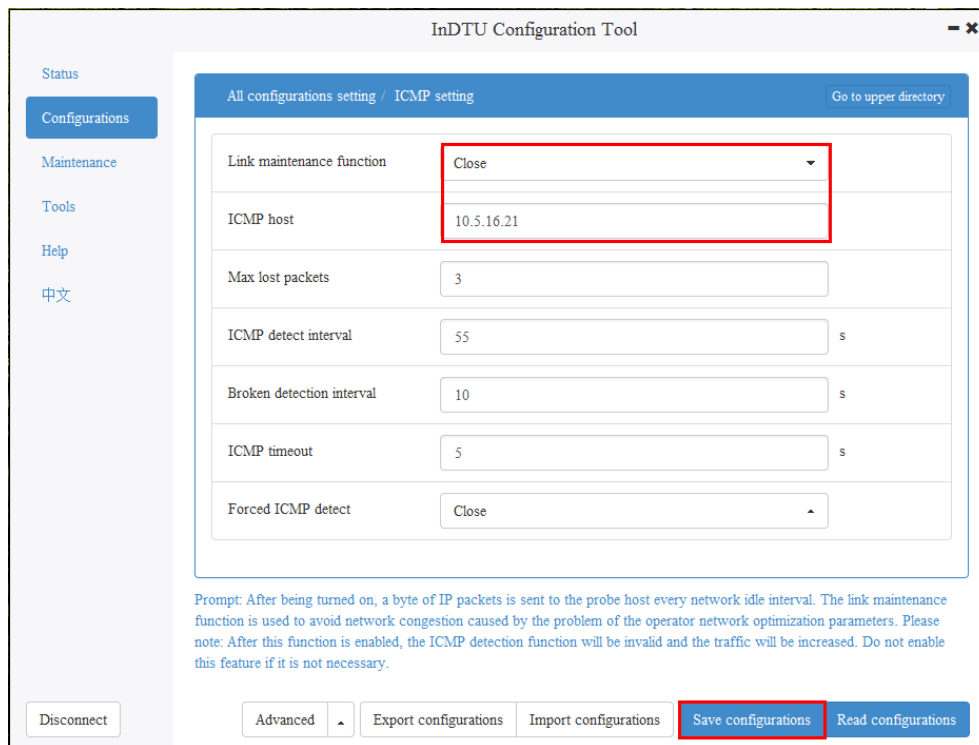

Figure 4-3-3 Setting the TCP server (3)
Step 4: Set the ICMP parameter to prevent the DTU from automatically restarting when detecting no network data in two hours. **Link maintenance function** must be set to **Close**, as shown in Figure 4-3-3.